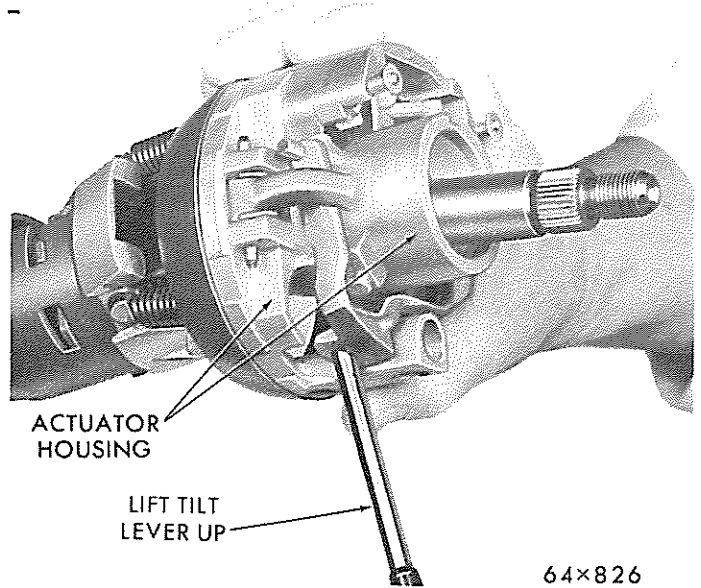

Fig. 26 - Removing or Installing the Actuator Housing
(12) Hold the puller screw from turning and pull the pivot pin from the actuator housing by turning the tool nut in the clockwise direction.
(13) Slightly lift the release lever to disengage the lock shoes from the lock pins and remove the actuator from the column assembly (Fig. 26).